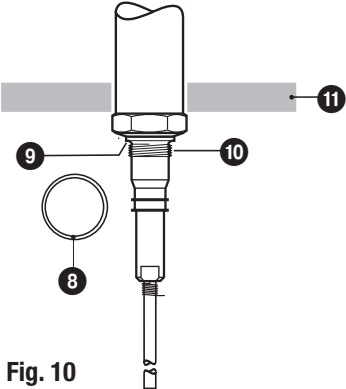

Fig. 10
2. Place supplied gasket ⑧ onto seating surface of the threaded standpipe or flange. **Fig. 10**
3. Apply a light smear of silicone grease (e. g. WINIX® 2150) to electrode thread ⑩.